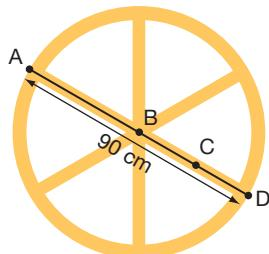

Figure 8.3.15
- 1 The wheel in Figure 8.3.15 can be thought of as a lever.